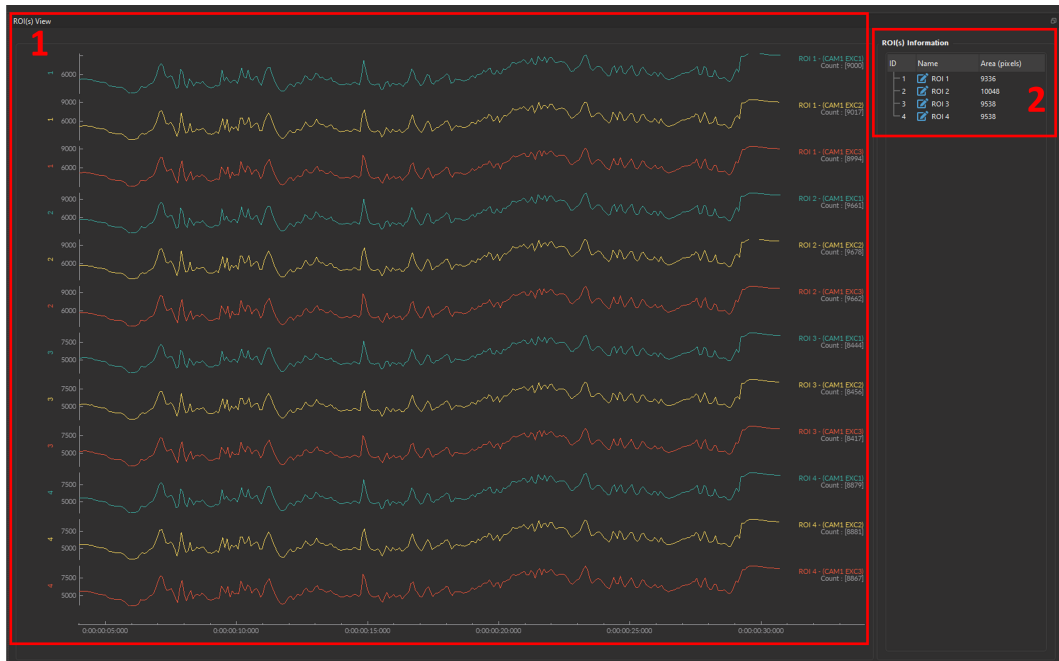

Figure 14.43: ROI(s) View
1. The **ROI(s) signal graph** (Fig. 14.43, 1) displays the raw signal trace for each ROI(s).
2. **ROI(s) Information** Tab (Fig. 14.43, 2) displays a table with ROI basic data, including: